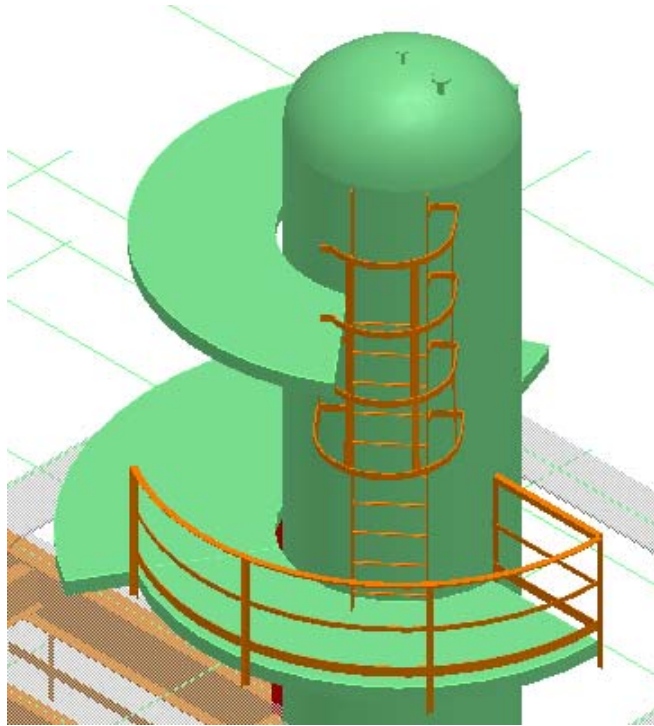

Figure 44: Placed Handrail
52. In this page, set **Post Section Cardinal Point** field to **1-Bottom Left**. Click **OK** on the **Handrail Properties** page. The view should resemble Figure 44.